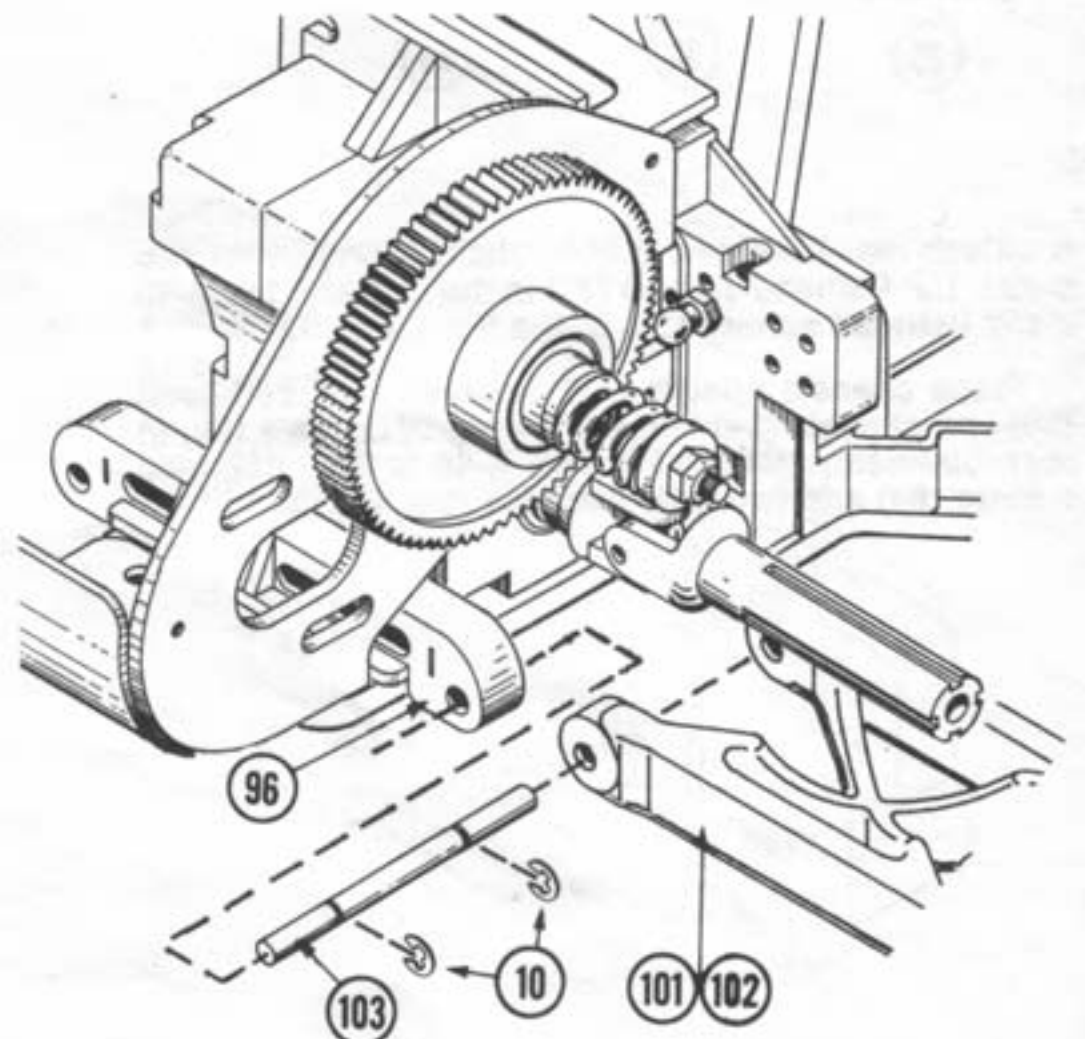

Figure 35
12. Align inside of H-arm (101) "L", (102) "R" between rear pivot support (96) and rear bulkhead (89). Fig. 35
* Note: The H-arms are marked "L" and "R" in the side area behind the shock mounting holes. Refer to illustrations to assure that your H-arms are attached to the correct side. Remove and trim H-arm spacer (126) from side rail of H-arm (101), (102) and set aside until Step 19.
13. Insert 1/8" x 1.785 hinge pin (103) through rear pivot support (96), H-arm (101) or (102) and into rear bulkhead (89). Fig. 35
14. Secure H-arm (101) (102) with two 1/8" E-clips (10) in grooves of the hinge pin (103). Fig. 35
* Note: It's easiest if one groove in pin (103) is given excess room to put on clip (10), then push it into rear bulkhead (89) and attach second E-clip (10).